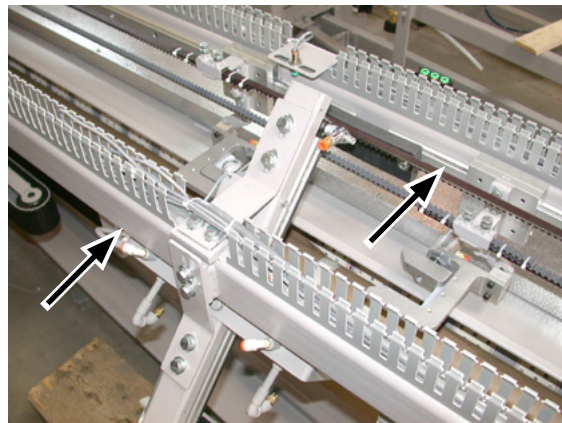

Figure 2-3: Make sure the fork lift uses both upper cross members to lift the unit.
8. Maneuver a forklift so that it is supporting the unit by both upper cross-members (Figure 2-3). Use caution not to snag or catch any belts, wires or hoses.